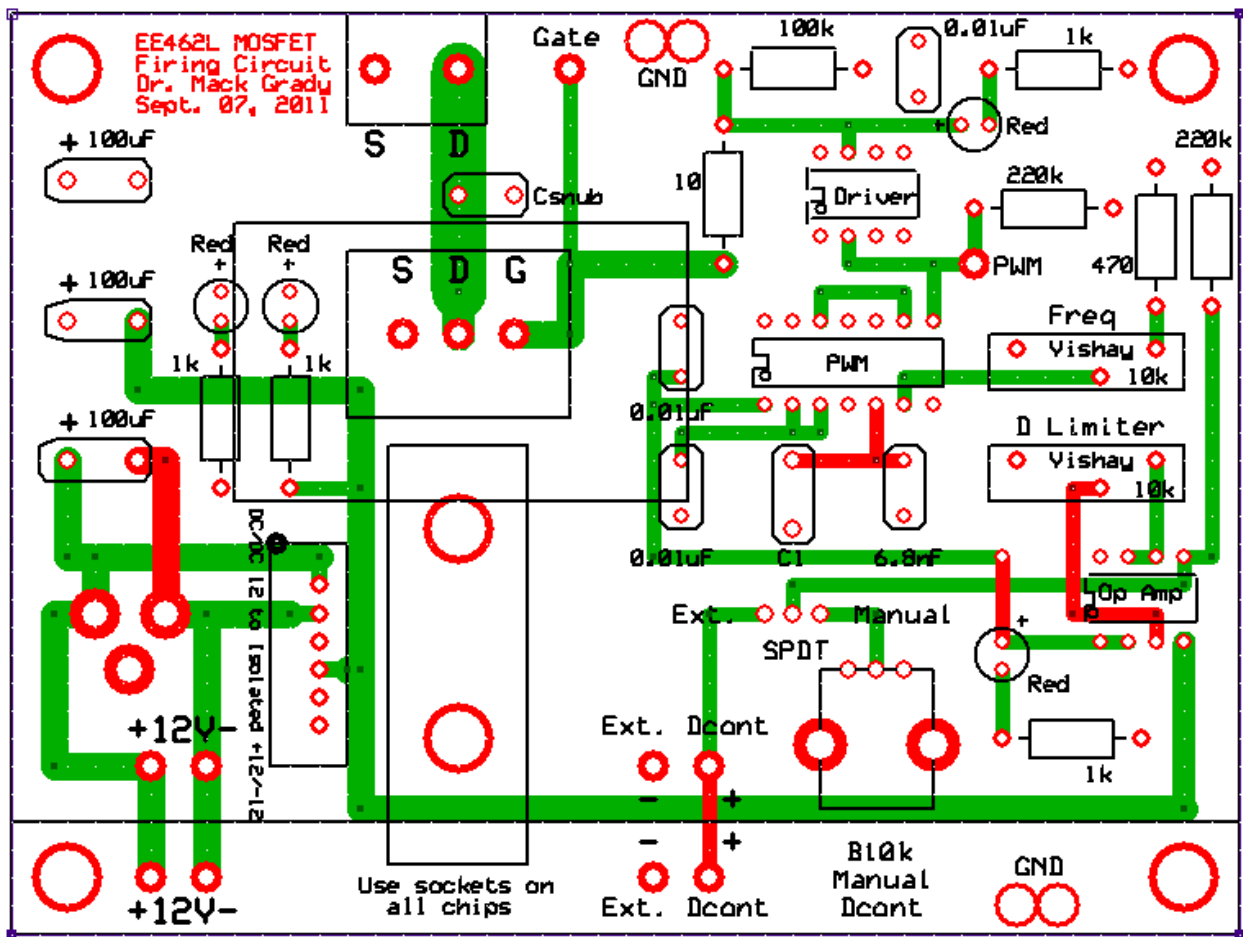
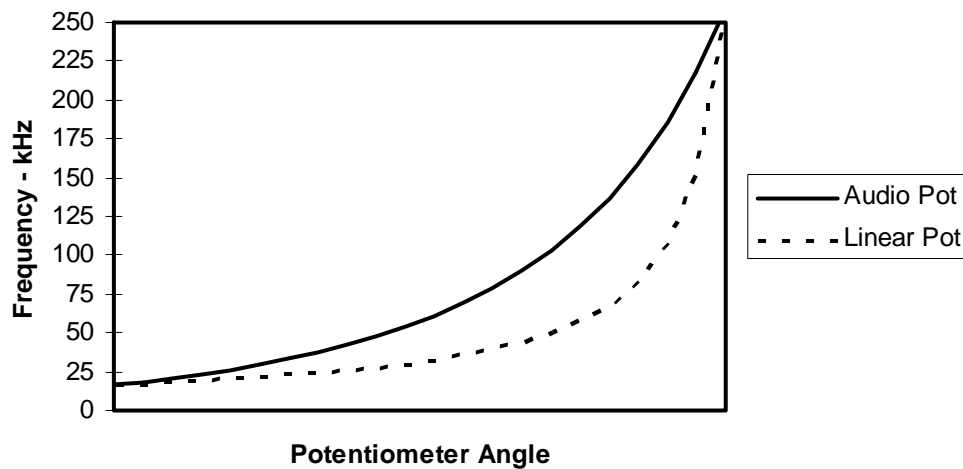

Figure 2. MOSFET Firing Circuit (ordered through ExpressPCB.com)
Figure 4. Frequency Variation vs. Potentiometer Angle
The MOSFET firing circuit used in this experiment, shown in Figure 2, contains five integrated circuit (IC) chips (i.e., a pulse-width modulator (PWM); an op-amp; a MOSFET inverting driver; a $\pm 12\text{ V}_{\text{DC}}$, dual-output, dc-dc converter; and the n-channel MOSFET itself which will act as your control switch). Pin outs for all five IC chips are provided at the end of this document.
Since the MOSFET firing circuit will be used for the three upcoming dc-dc converter labs as well, the duty cycle generation circuitry has been designed to accommodate the unique requirements of each of the converters. For example, the voltage divider for duty cycle control consists of two resistors and either an A10 k Ω potentiometer (for the Buck converter) or B10 k Ω potentiometer (for the Boost or SEPIC converters). The “A” in “A10 k Ω ” stands for audio taper, meaning that the resistance of the potentiometer varies logarithmically. B10 k Ω has a linear taper. In Figure 2, as the duty cycle “D” potentiometer (B10k Manual Dcont) is turned clockwise, voltage to the pin 1 of the PWM chip increases, the duty cycle of the pulses to the *inverting* driver chip decreases, so that D of the inverting driver output increases. The combination of resistors and potentiometer prevent D from exceeding 0.95 for the Buck converter, and 0.80 and 0.70 for the Boost and SEPIC converters respectively, so that the MOSFET is never fully “on” (an important safety feature for the Boost or SEPIC converters). There is also a 10 k Ω “D Limiter” potentiometer on the PCB board which can be adjusted to provide an upper control limit (UCL) for Dcont, to further ensure it won’t exceed certain thresholds which may be dangerous for the Boost and SEPIC converter operations.
The sawtooth wave frequency of the pulse-width modulator is proportional to $1/(RC)$, where R is the series combination of an A10 k Ω potentiometer and 470 Ω resistor, and C is 6.8 nF. Decreasing R increases frequency. In Figure 2, turning the A10 k Ω “Freq” potentiometer clockwise decreases R, and thus increases frequency. As the potentiometer is turned clockwise, the amount of resistance change per angular degree of movement decreases. The nonlinear resistance variation of an audio pot yields a more linear variation of frequency than can be achieved with a linear potentiometer (see Figure 4).
8. Unplug the 12 V_{dc} wall wart, and connect an oscilloscope probe to the logic output of the PWM chip (i.e., pin 8). Now power back up your PCB board and adjust D. *(Note: Adjust D via the "B10k Manual Dcont" potentiometer from Figure 2, not the D Limiter potentiometer!)* The waveform should vary sharply between zero and (about) 4.5 V, with an inverted duty cycle. Thus, read this waveform as "- Duty" (negative duty cycle) on the oscilloscope. *(Note: If the waveform is "chattering", adjust the Trigger level knob to something in between the signal range and it should stabilize.)*